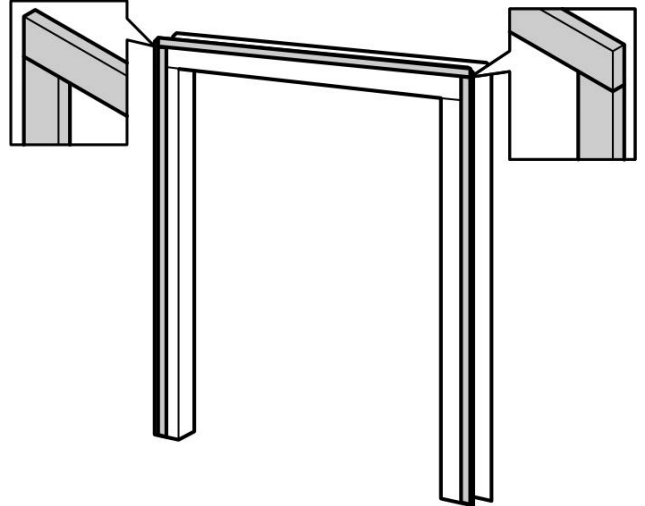

Figure 13. Fitting the foam seal
9. There is a length of self adhesive foam seal supplied with the fire. This will need to be fitted to the outer rear edges of the side and top pieces of the spacer frame. Ensure that there is no gap between the foam seals where they meet at the top flange (See figure 13).